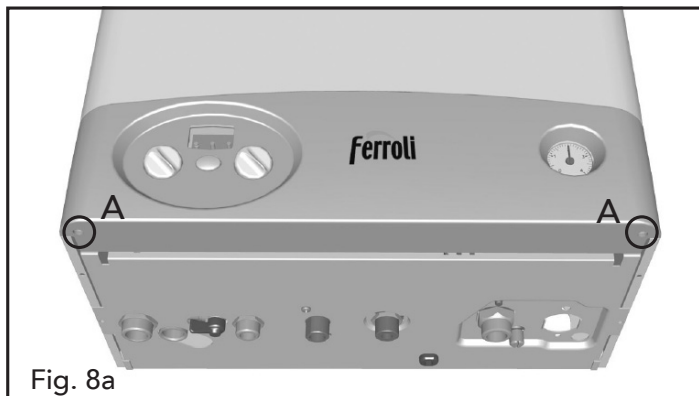

Fig. 8a
- 1 Unscrew the two screws "A" (Fig. 8a)